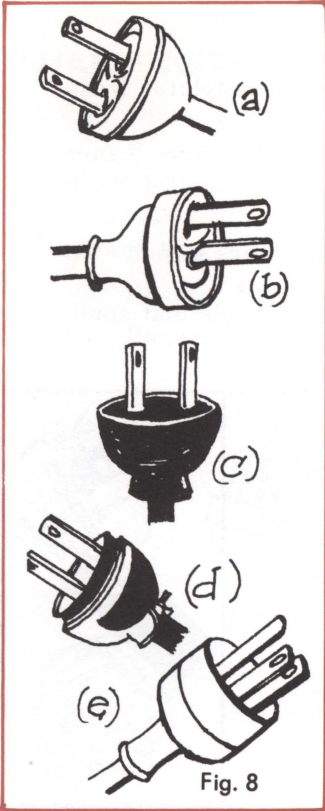

Fig. 8
Plug for Convenience Outlet: May be bakelite (A and B), rubber (C), or hard rubber metal covered (D), or heavy duty grounding (E). Fig. 8.